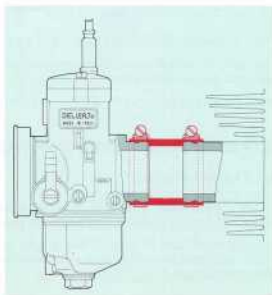

fig. 4
**A-male clamp fixing** (figure 4)